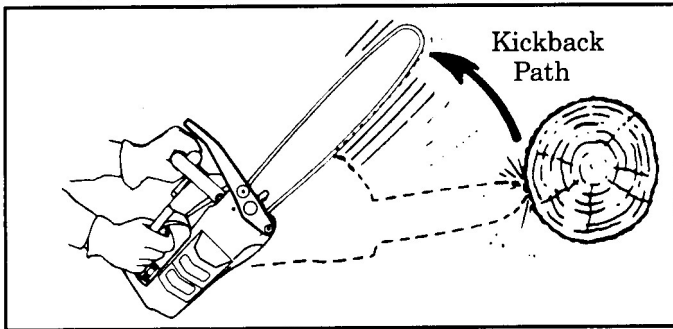

Figure 1
2. **Never let the moving chain at the tip of the guide bar contact any object.** Figure 1.